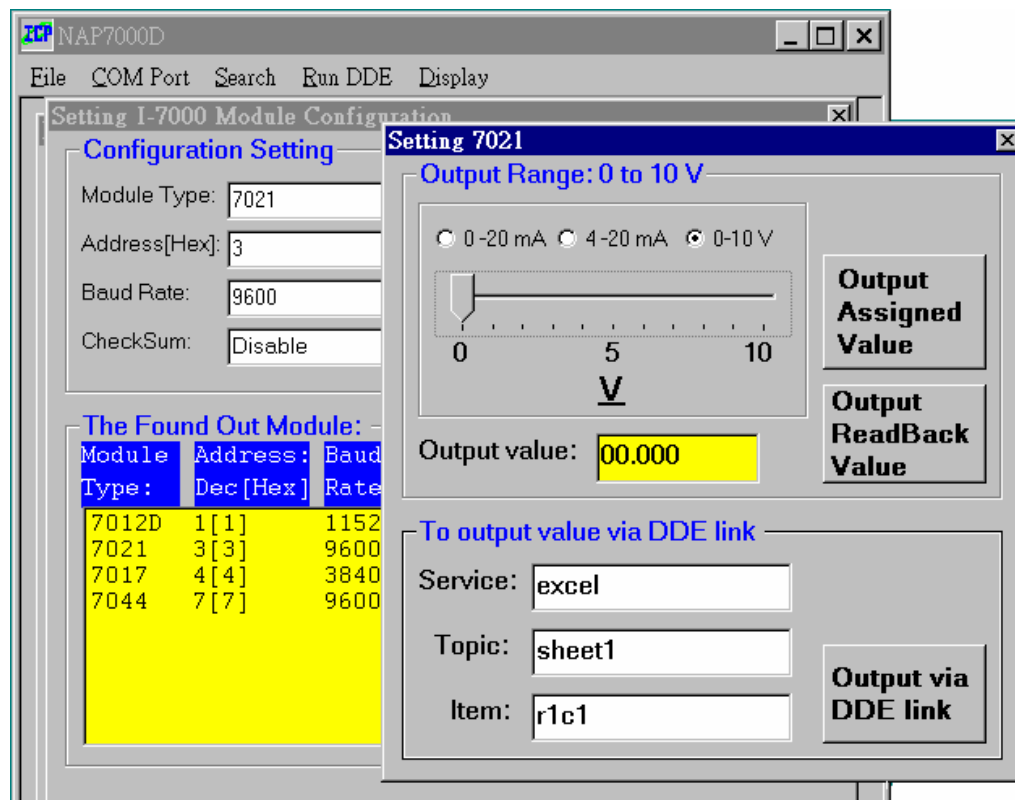

Fig 3-11.
Step 1: Setting the configuration of the CB-7021 as Fig 3-11 shown. Please adjusting the baud rate and module address according to your CB-7021 module configuration. In this case, the A1 cell of Excel which contain the value passing to NAP7000D.